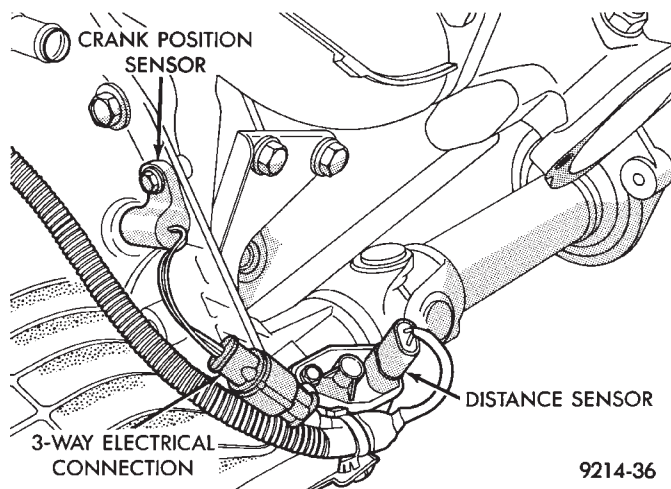

Fig. 9 Crankshaft Timing Sensor—3.3L and 3.8L Engines
(1) Disconnect crankshaft timing sensor electrical connector from the wiring harness connector (Fig. 9).